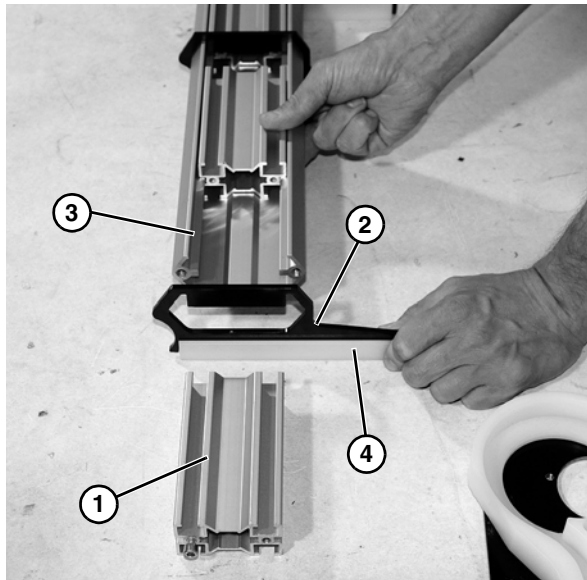

Figure 71
7. Remove each extrusion (**Figure 71, item 1**) and support plate (**Figure 71, item 2**) from crossmember (**Figure 71, item 3**).
8. Inspect and replace wear strip (**Figure 71, item 4**) if necessary.